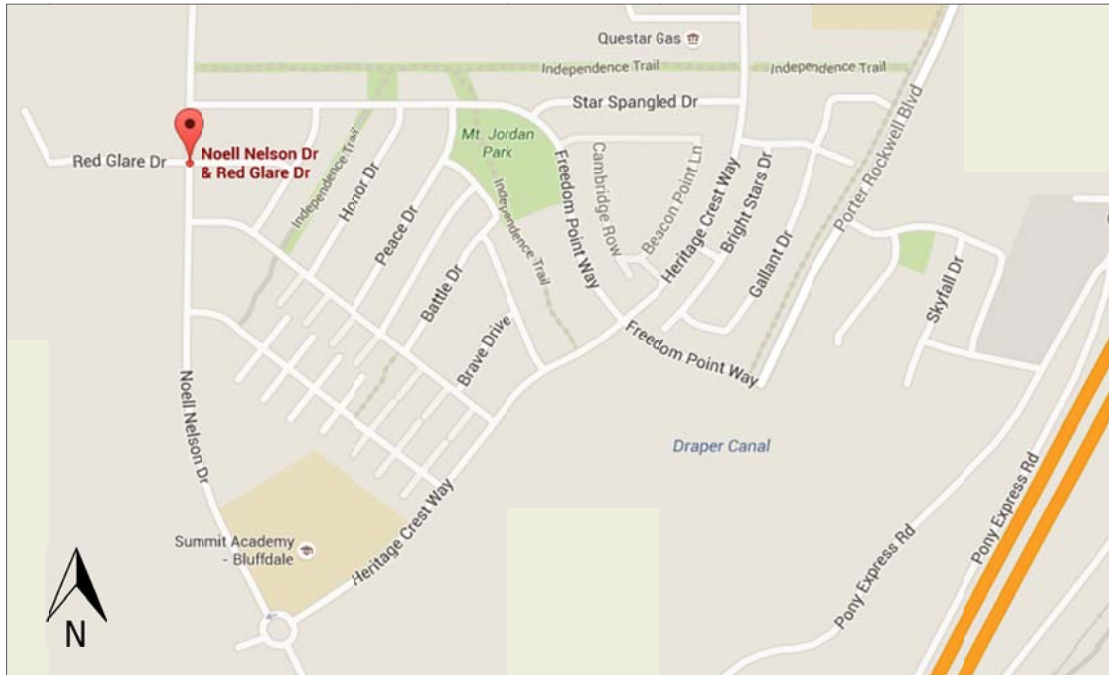

Figure 2: Noell Nelson Dr (1000 W) and Red Glare Dr (maps.google.com 2015).
- Noell Nelson Drive (1000 W) and Red Glare Drive (see Figure 2)